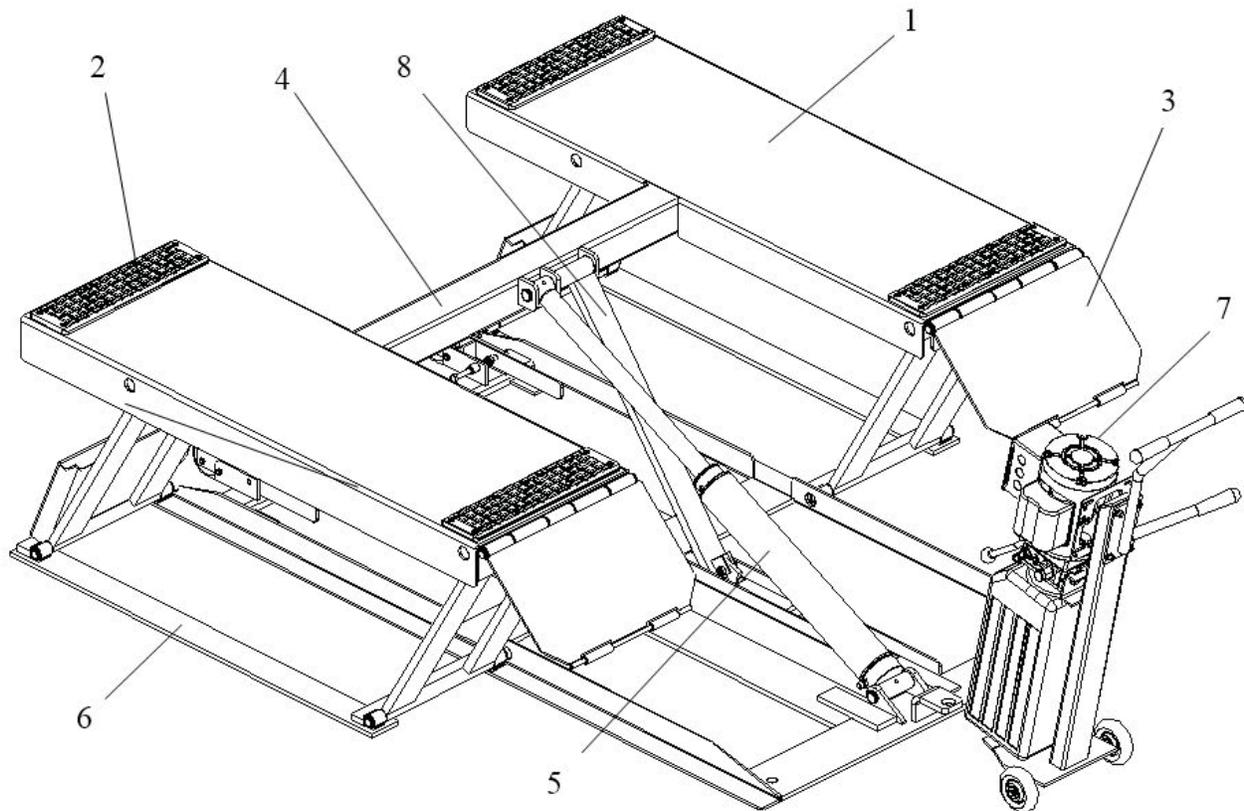

Figure 1 – Lift
As shown in figure 1, the lift is composed of the platform (1) with the rubber pad (2), 2 ramps (3), lifting system (4), the hydraulic cylinders (5) and base (6).